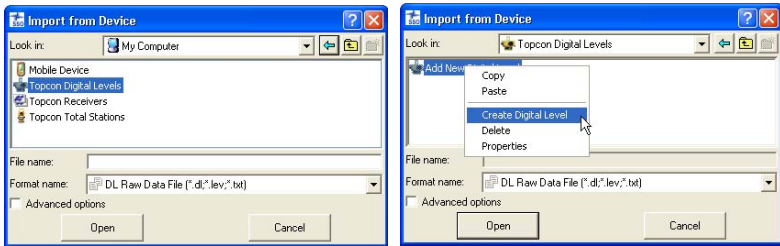

Figure 3-33. Create New DL
2. Double-click **Topcon Digital Levels** in the *Import from Device* dialog box (Figure 3-33).